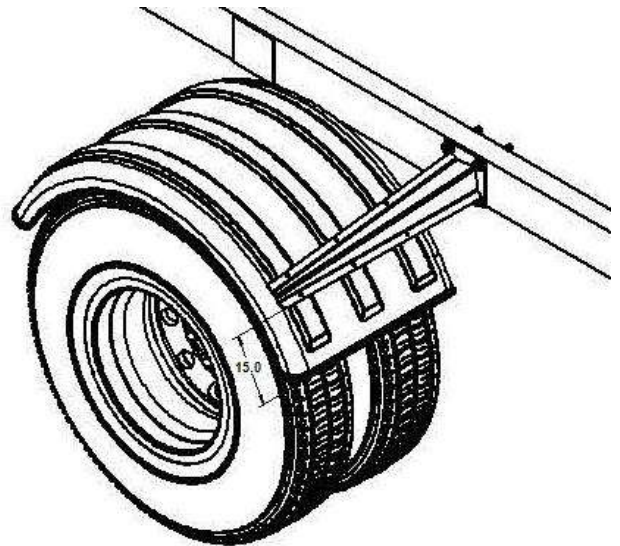

Figure 5
- C. If possible, position the mounting brackets so they are located within 15" of the bottom of the fender. This protects against wind blowing the leading edge of the fender back into the tire (Figure 5).